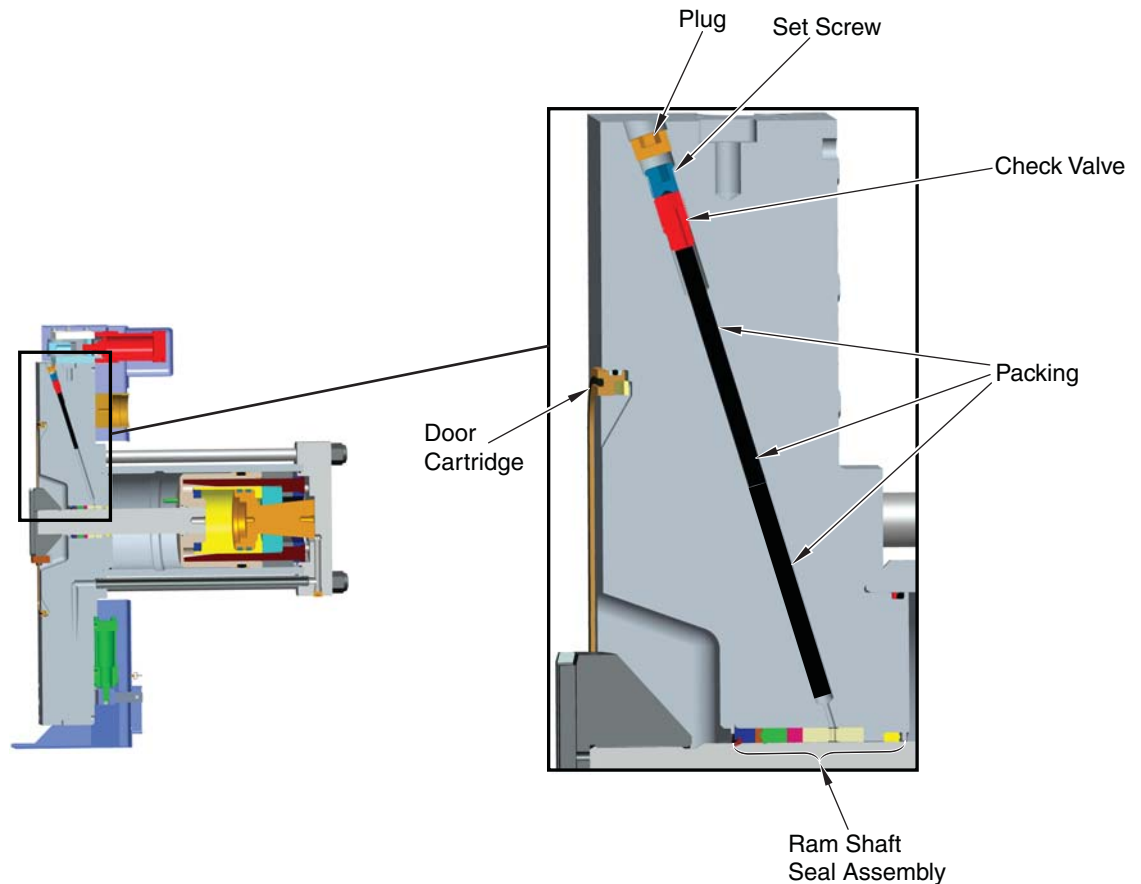

Figure 5-52. Secondary Packing
2. With the pipe plug removed, a second socket head screw plug is exposed. Tighten this to inject the secondary ram shaft seal (see Figure 5-52).